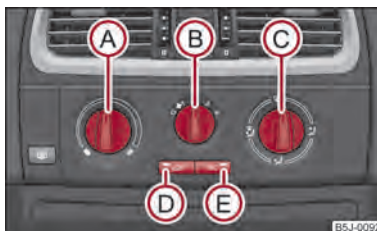

Fig. 79 The air conditioning system: Control elements
The air conditioning system operates when switch **(AC)** ⇒ fig. 79 **(E)** is pressed and the following conditions are met:
- Turn the control dial **(A)** ⇒ fig. 79 to the right in order to increase the temperature.
- Press the button **(AC)** **(E)** ⇒ fig. 79. The warning light lights up in the button.
- Controls Ⓐ, Ⓑ, Ⓒ and the buttons Ⓓ and Ⓔ → fig. 79.
- Press the button Ⓢ Ⓓ → fig. 79, the warning light lights up in the button.
The recirculated air mode is switched off automatically if the air distribution control  is in position  ⇒ fig. 79. You can also switch recirculated air mode on again from this setting by repeatedly pressing pushbutton .